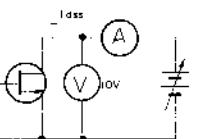

Fig. 3-10
- If the foregoing procedures do not make any sense, check the IFT (V 401)'s Ids and replace if necessary. Deferent IFT does not have Ids of 6mA or more. Ids can be checked by the circuit as shown in Fig. 3-10.
(3) Tuner Input Meter Calibration